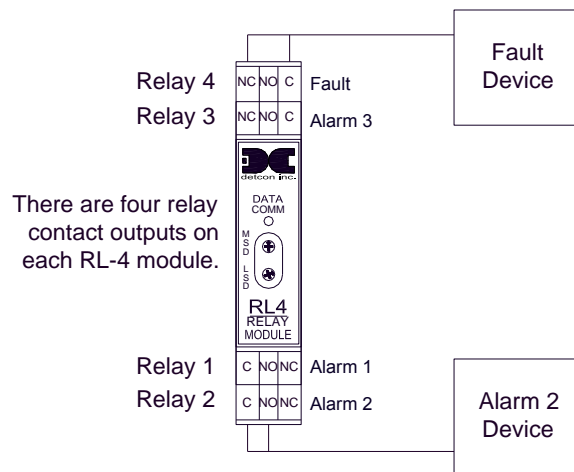

Figure 20 Model RL-4 Relay Output Module
There are four (4) Form C Single Pole Double Throw (SPDT), 5 Amp relays in each Model RL-4 module. Each relay in the module is assigned specifically to one alarm. Relay 1 is assigned to Alarm 1, relay 2 is assigned to Alarm 2, relay 3 is assigned to Alarm 3, and relay 4 is assigned to Fault. These can be used to control (fire) annunciating devices or as signal inputs to other control devices. Connections to the relay contacts of the RL-4 module are shown in Figure 20 and are labeled C (Common), NO (Normally Open) and NC (Normally Closed). Note that the 5 Amp rating of the relay contact should not be exceeded. RL-4 modules are installed on the DIN rail of the controller.